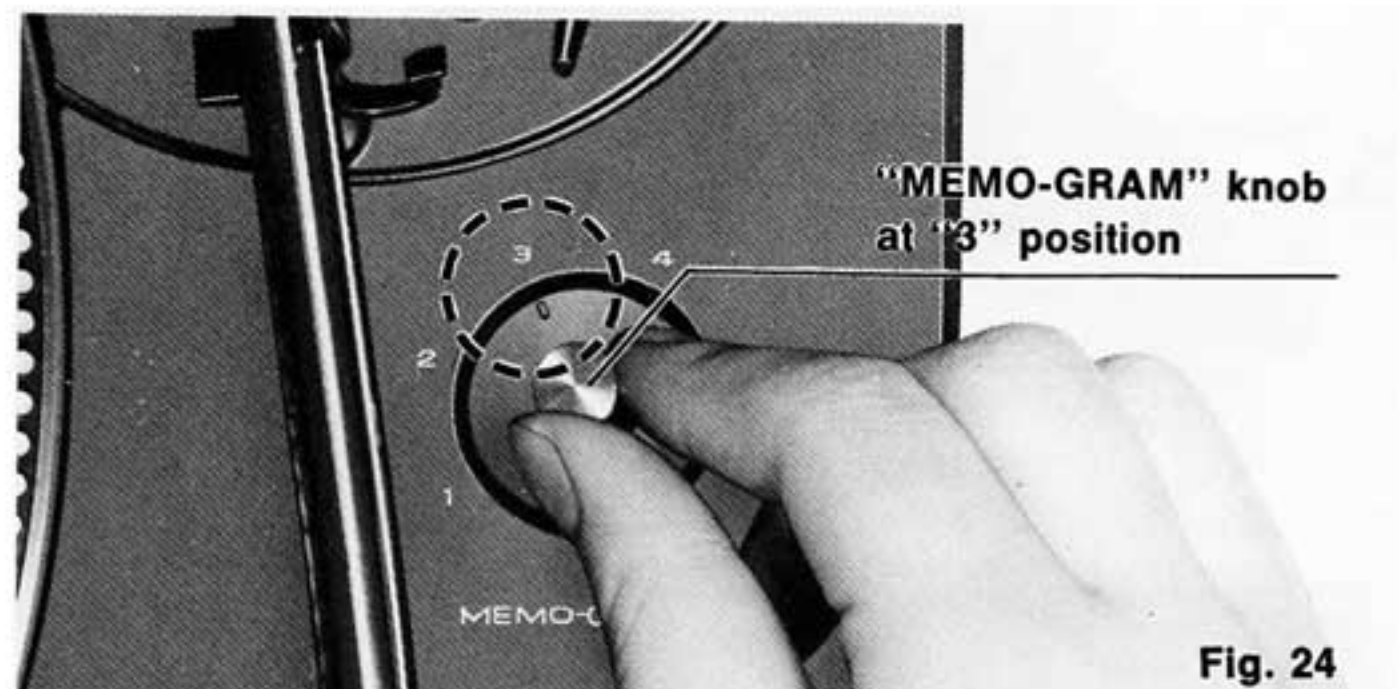

Fig. 24
- ① Set the **"MEMO-GRAM"** knob to the desired number which you want to play. (See Fig. 24)